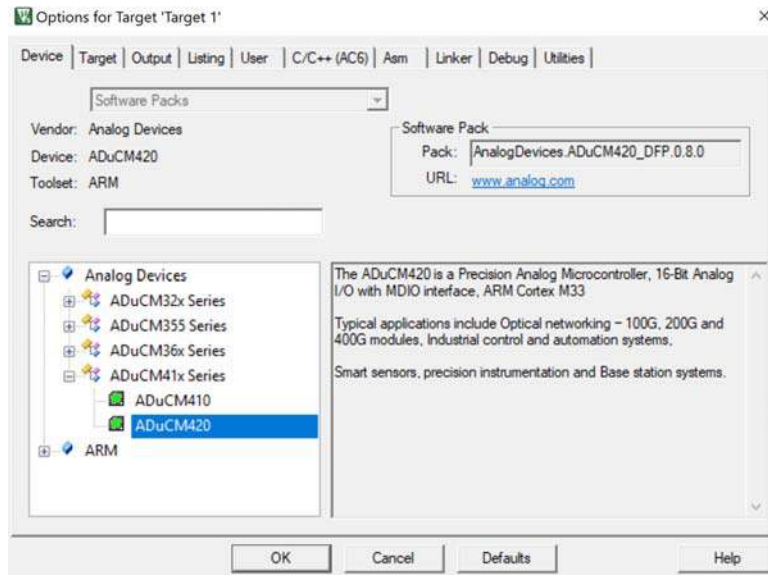

Figure 8. ADuCM420 Device in Keil μVision5
3. With the ADuCM420 CMSIS pack installed, the ADuCM420 device is supported by the Keil μVision5 IDE. The ADuCM420 appears in the **Device** tab of the Keil window, as shown in Figure 8.